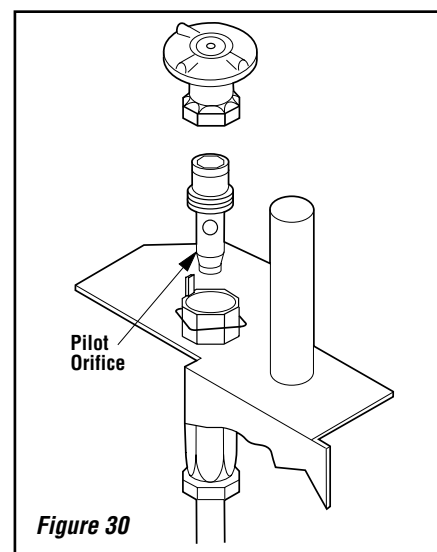

Figure 30
Step 6. Refer to **Figure 30** and remove the pilot hood assembly to access the hexed pilot orifice. Remove and replace the orifice with the one provided with the kit.